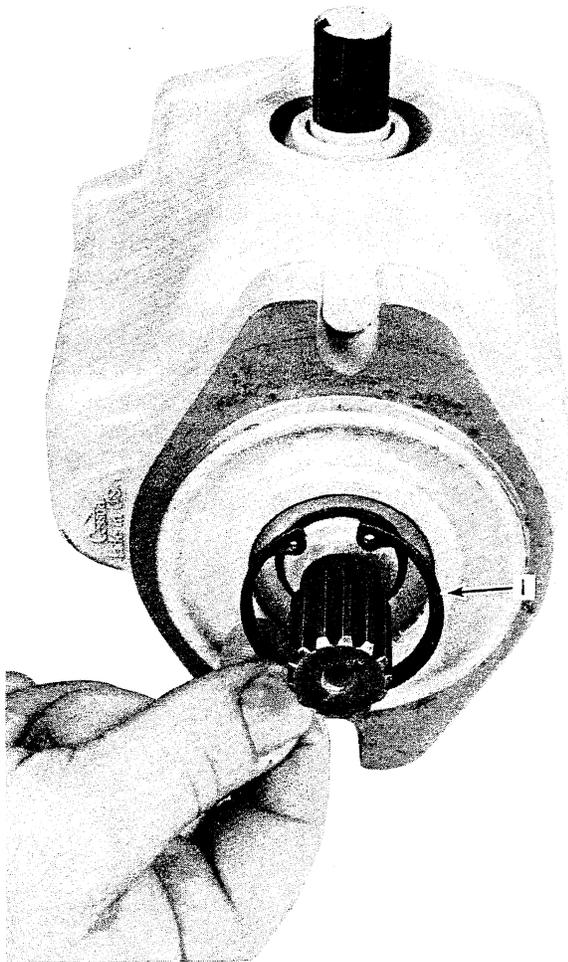

FIGURE 30
16. To remove the pump shaft from the housing, remove the snap ring (1), Figure 30.